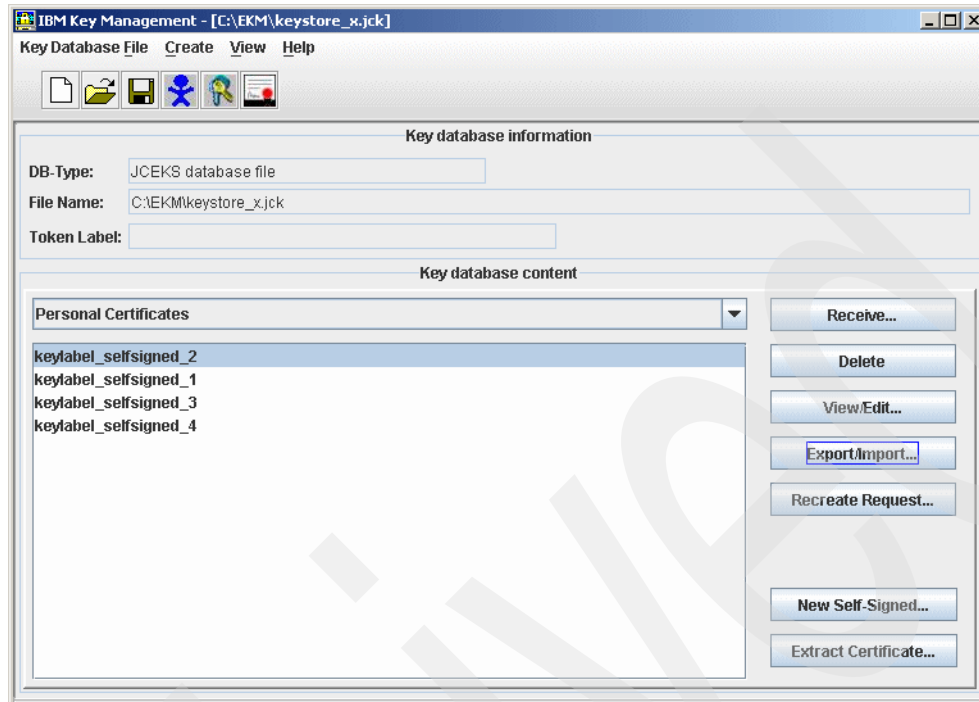

Figure 6-32 Keys are imported
8. The imported keys are now displayed in your keystore in the IBM Key Manager window, as shown in Figure 6-32.